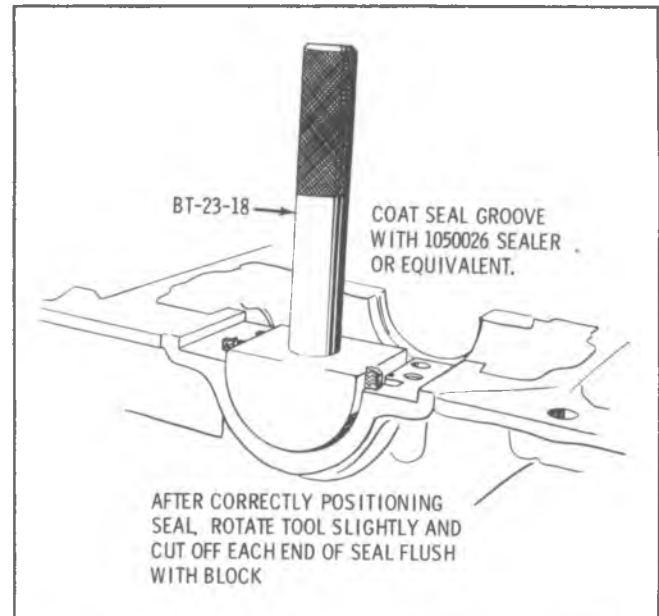

Fig. E-90—Installing Rear Main Oil Seal (Upper Half)
3. Install a new rear main bearing seal. (Fig. E-90)